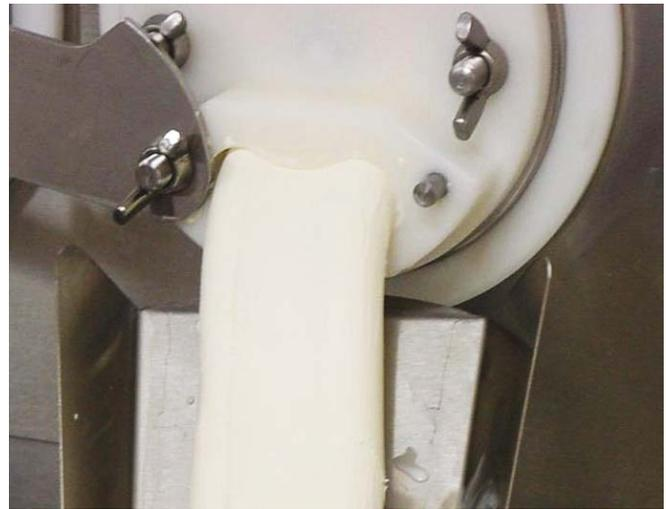

Figure 3-8 Proper Flow
- M. Adjust the flow control knob until the product flow fills the faceplate outlet and is at the desired texture (Fig. 3-8). The flow control knob setting is different for each type of product.